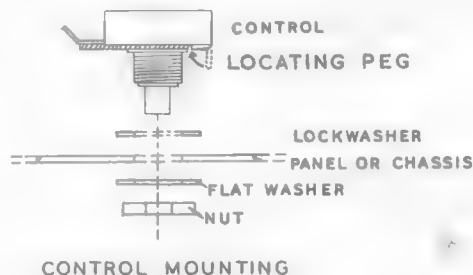

FIGURE 6.
- (✓) Mount the 10k potentiometer in location C. Orient the tags as shown in Pictorial 1. See Figure 6 for correct mounting procedure.
- (✓) Mount the RANGE switch on the panel. Refer to Figure 6 for mounting procedure and Pictorial 4 for switch orientation.
- (✓) Twist the two BLACK transformer leads together and connect either lead to LE2 (NS). Connect the other lead to RR7 (S-1).
- (✓) Connect a wire from LE1 (NS) to RR8 (S-1).
- (✓) Connect the free lead of the 100Ω precision resistor from RM5 to solder tag G (NS).